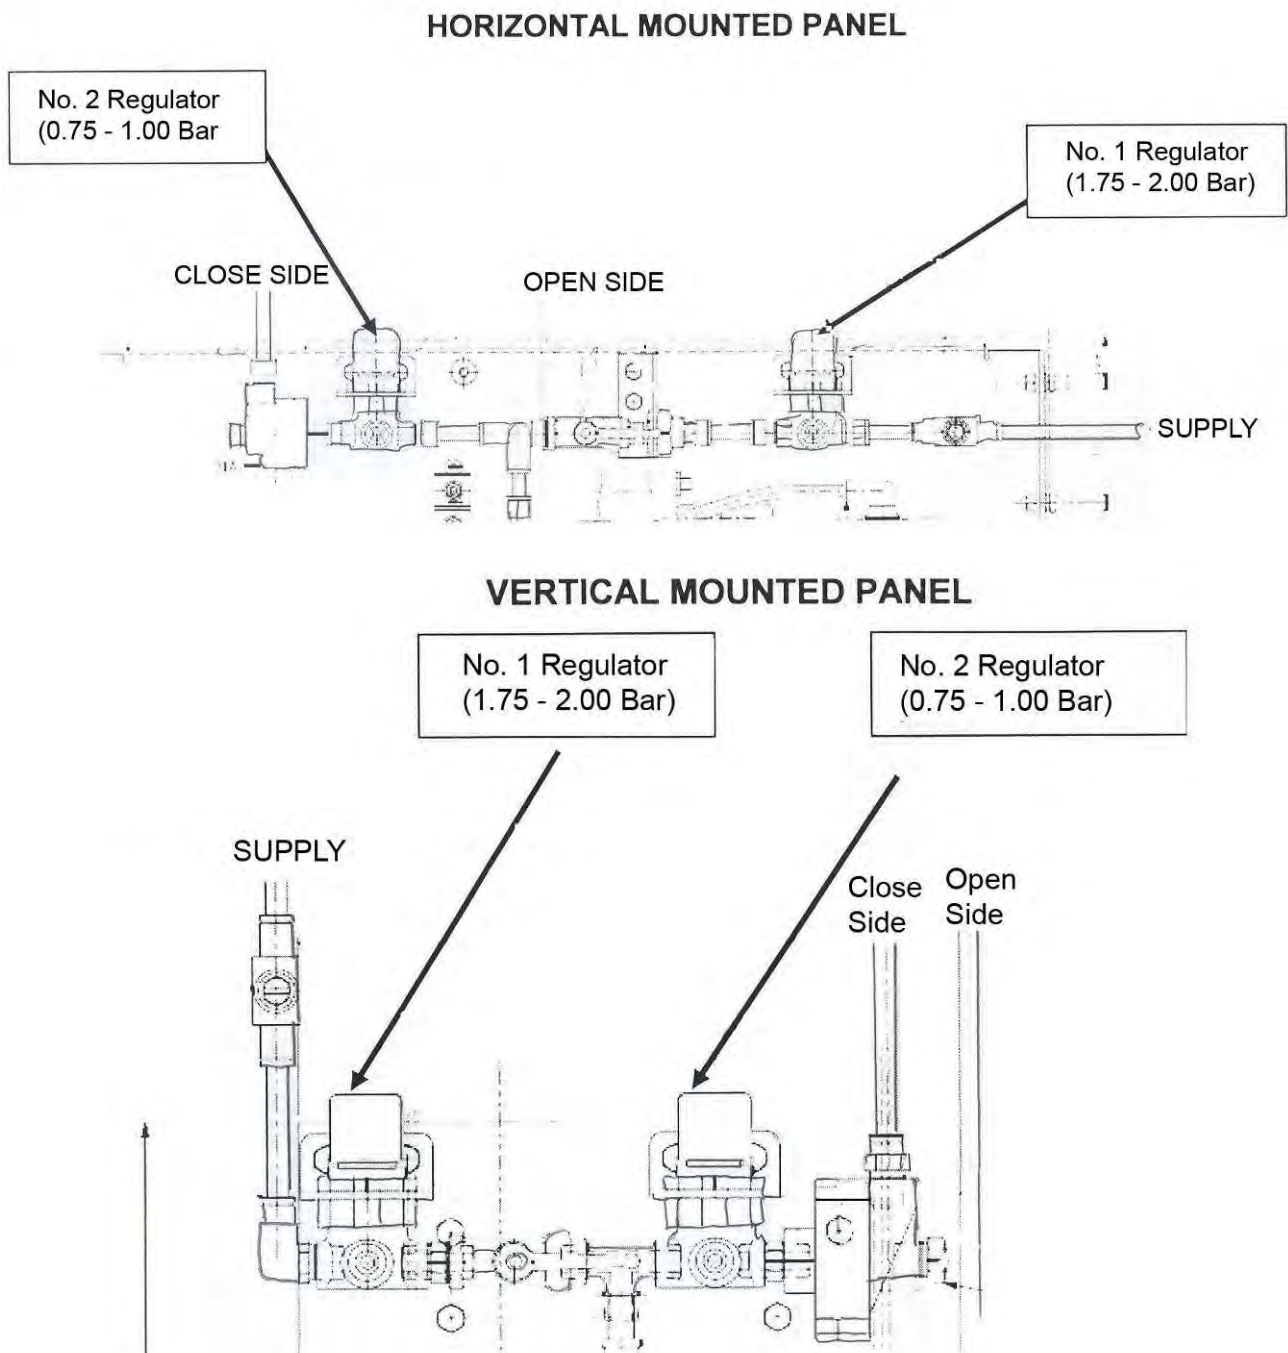

Figure 4: Door Pressure Regulator Valves for Wabtec Rail Control Panel
3. Remove the Allen screws from both the regulators (see Figure 4) and fit air pressure gauges (Norgren 18-013-990 0 to 4 bar). Retain the screws in a safe location for re-fitting.